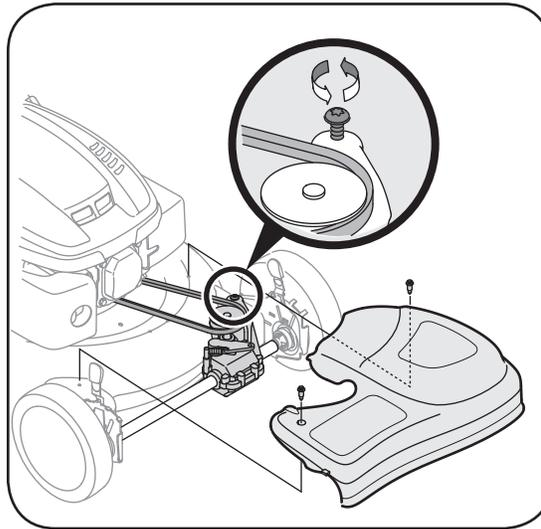

Figure 5-3
1. Remove two shoulder screws securing front drive cover to mower deck. See Figure 5-3. Press inward on sides of front drive cover and release tabs that secure it to the height adjuster brackets. Remove drive cover from mower.
2. Loosen screw holding belt tension spring to transmission. See Figure 5-3 inset. Do not remove screw completely. As you loosen it, tension on the belt will be released.
3. Tip mower on its side with the air filter up to access belt from underside of mower and remove blade as described in the previous section. Refer to Figure 5-3.